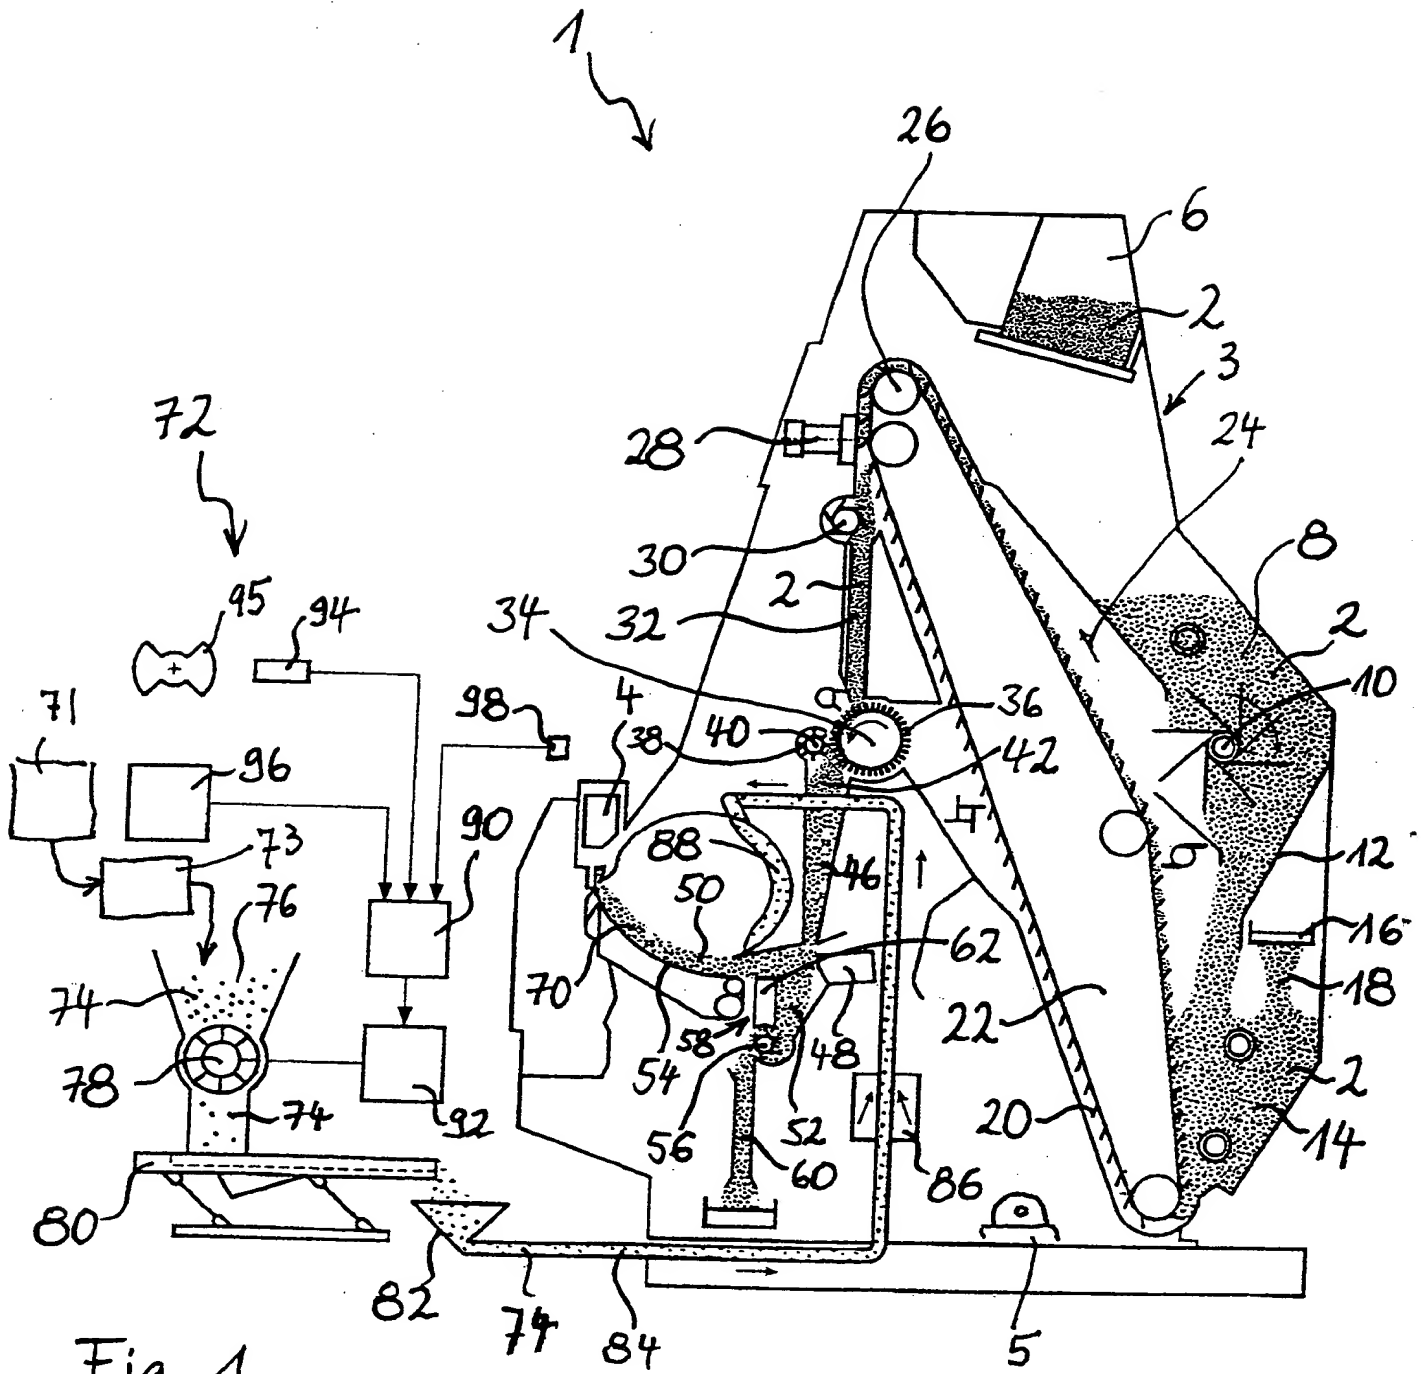

Fig. 1
FIG. 1 is a schematic diagram of a machine for processing material, showing a hopper (1) at the top, a feeder (2) leading to a processing chamber (3). The chamber contains a rotating drum (4) with internal blades (5). Material is discharged from the drum through a discharge chute (6). The machine is supported by a base (7) and includes a motor (8) and various control components (9-14). A detailed view of the drum assembly is shown in the lower right, including the drum (15), blades (16), and support structure (17-20). A flow diagram on the left shows the material flow from the hopper (21) through the feeder (22) to the processing chamber (23) and finally to the discharge chute (24). The flow diagram also includes a control unit (25) and a motor (26) connected to the drum (27). The flow diagram is labeled with various reference numerals (28-40) corresponding to the components of the machine.